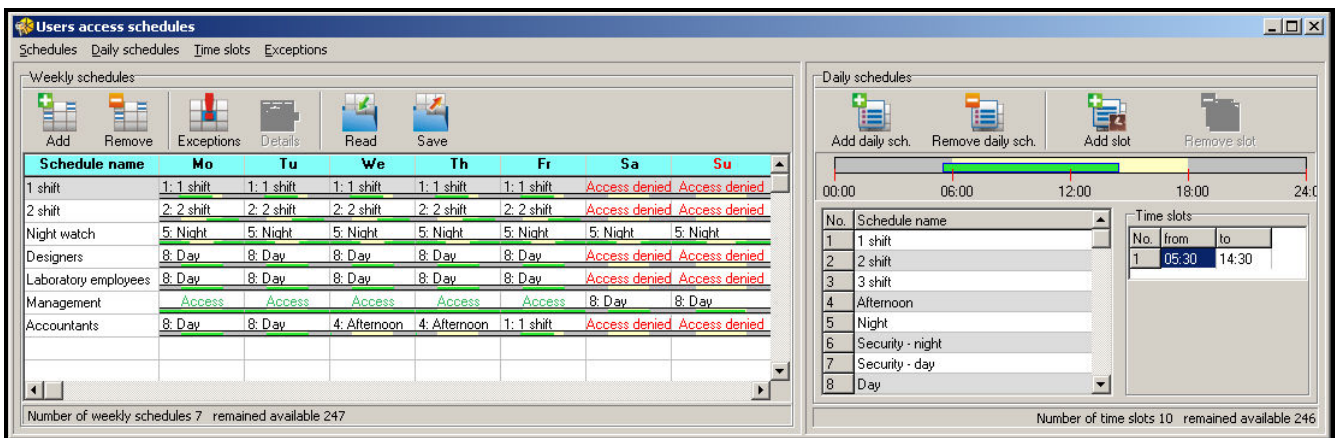
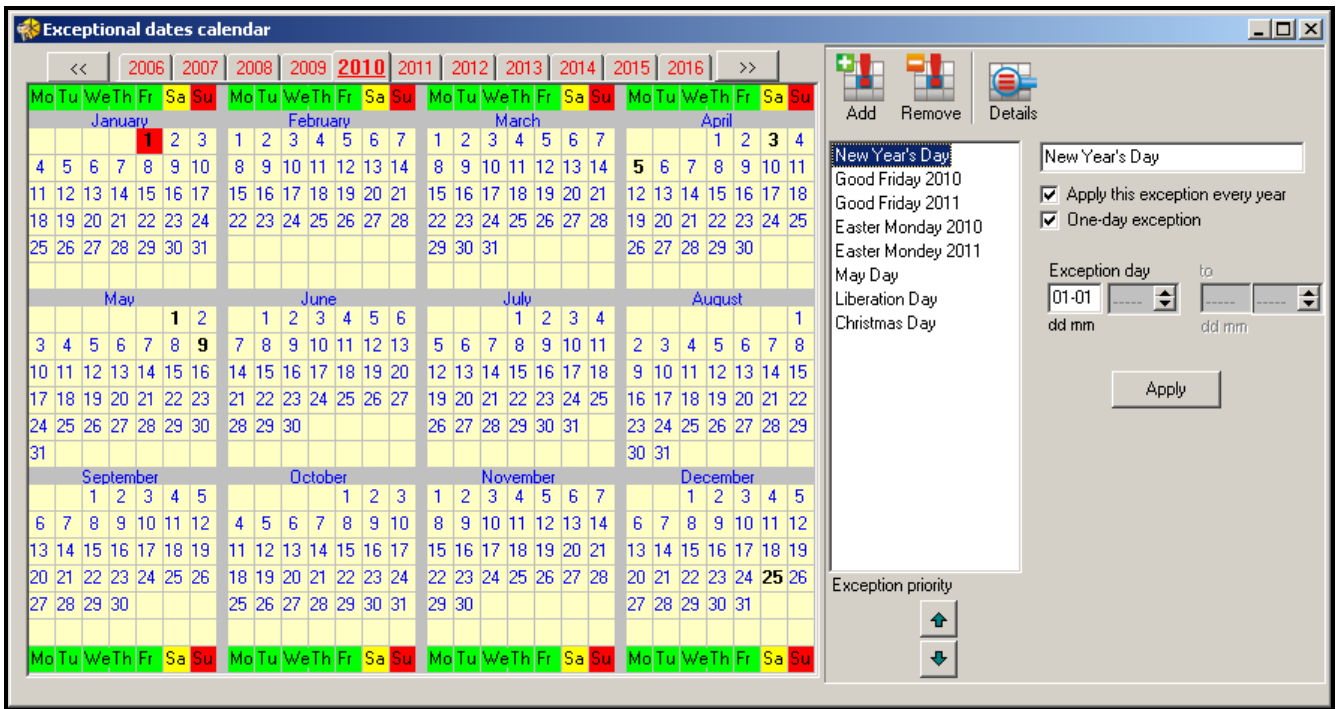

Fig. 30. Window with access schedules.
Fig. 31. Window with exceptional dates calendar.
1. Click with your mouse on the button designated SCHEDULES, available on the program menu bar (see Fig. 21). The USERS ACCESS SCHEDULES window will open (see Fig. 30).
1. Click with your mouse on the button designated EXCEPTIONS, available in the USERS ACCESS SCHEDULES window (see Fig. 30). The EXCEPTIONAL DATES CALENDAR window will open (see Fig. 31).